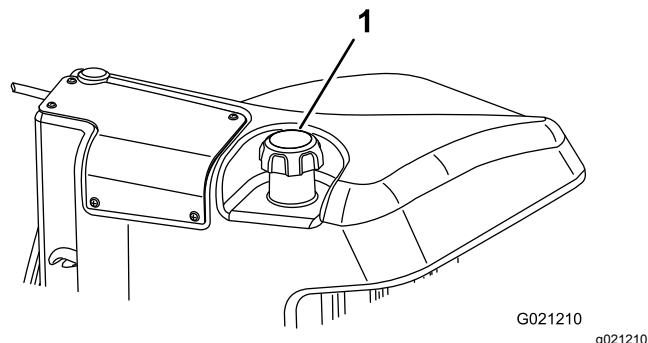

Figure 17
3. Remove the cap from the fuel tank (Figure 17).